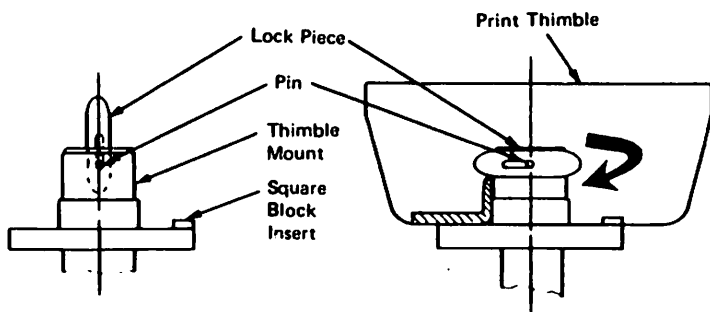

Figure 38 Releasing the thimble latch
3. Slide the lock piece (located in the center of the thimble holder) to the side and pivot it up so that it is vertical (Figure 38).